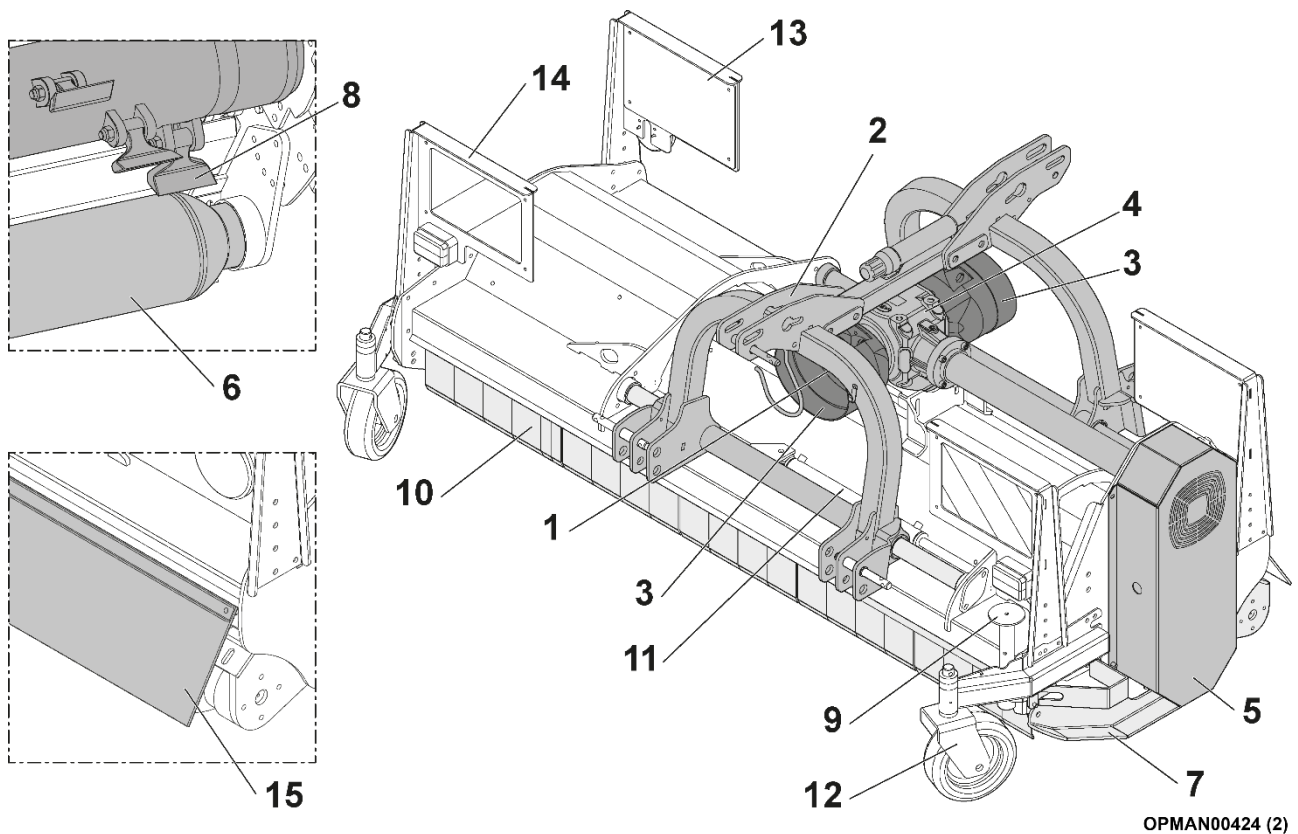

Figure 1
With reference to Figure 1, the Mower is a machine designed and built exclusively for maintenance of green areas or mowing directly on site by mulching crop residue. It can be used to mow twigs, corn, pruning residue, planting in general, weeds, etc. forwards as well as backwards. It must not be used for other purposes or with other materials.
The Mower (Figure 1) basically consists of a closed steel cowl structure in which a rotor shaft with flails is installed (8) and, on the rear side, a rear roller (6) to compact the terrain following the mowing phase. The frame (2) is structured so as to allow the machine to work forwards as well as backwards, with the three-point hitch able to be attached to the tractor from both sides. The lower front part is protected by a number of sheet metal flaps (10) which prevent the soil and/or fragments of plants from being projected outwards. The Mower is powered by the supporting agricultural tractor engine by connecting the gearbox (4) to the PTO of the tractor itself with the input PTO shaft. The gearbox allows a pre-set number of revolutions to be given to the rotor shaft to rotate via a pulley and belt lateral transmission system (5).